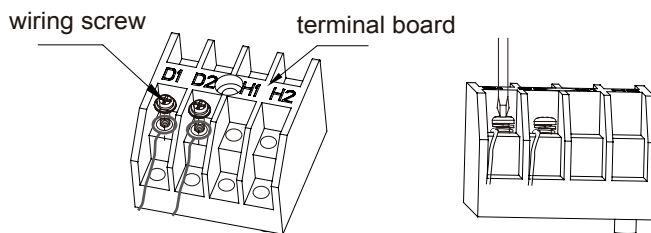

Fig. 5.3.1
- (1) Detach the electric box lid.
- (2) Lead the Communication cable through the wiring holes.
- (3) Connect the communication wire to terminal D1 and D2 of indoor 4-bit wiring board, as shown in Fig. 5.3.1.